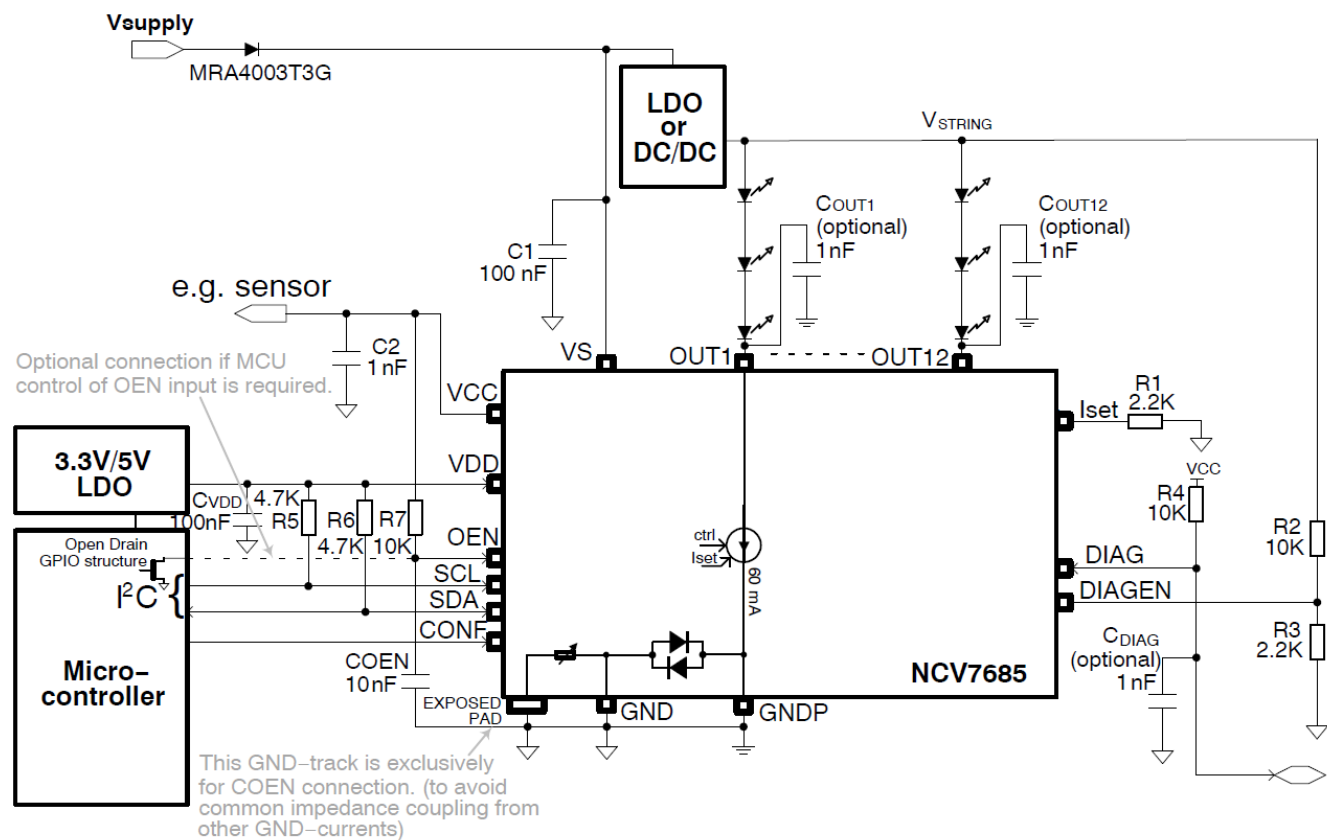

Figure 4. Application Diagram with Micro-controller (I²C Mode)
- **Adding supporting text to the Application Diagram for Figure 4.**
- New text below the Figure 4.